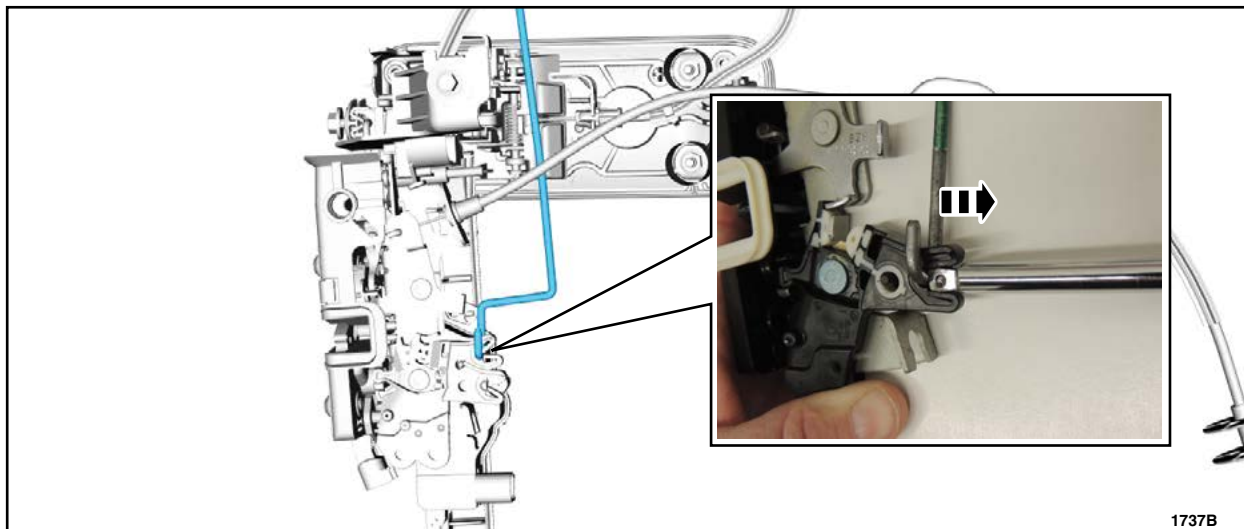

FIGURE 2
4. Remove the lock rod assemblies. See Figure 2.